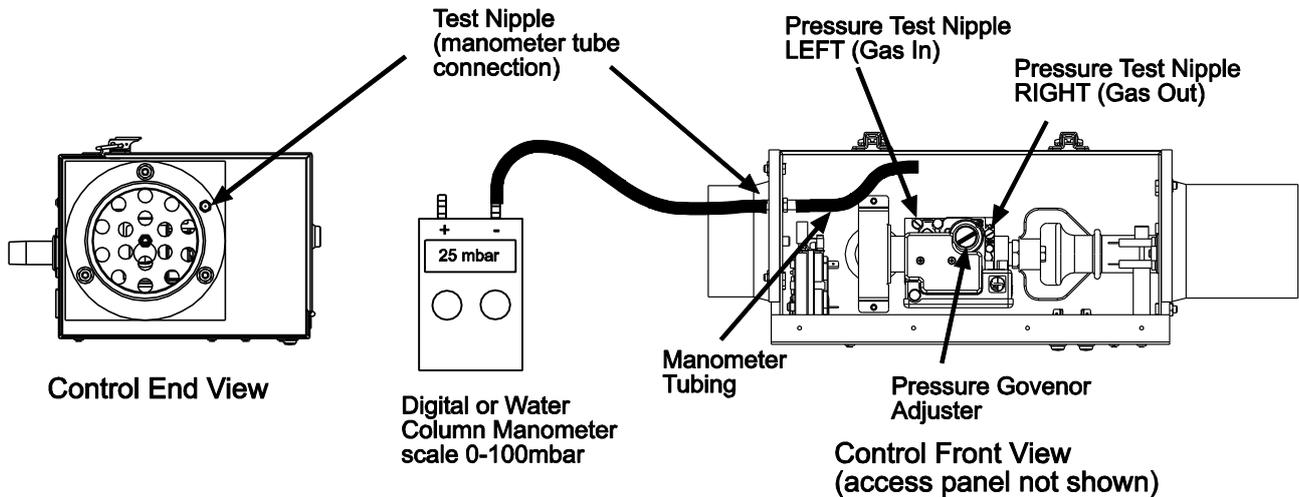

Fig. 29
- Connect a manometer to the test nipple protruding from the rear panel of the Control Box (adjacent to the Air Inlet Adaptor). See Fig. 29. Open the Control Box door after releasing the two toggle latches.